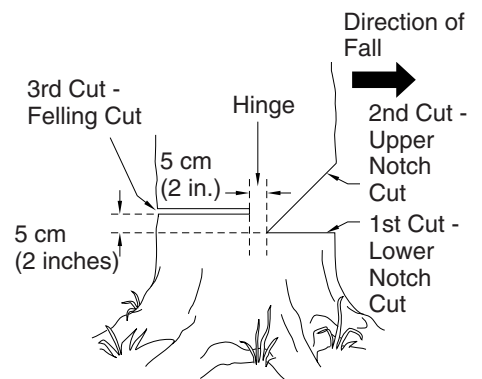

Figure 12 - Felling A Tree
A properly placed felling notch will determine direction tree will fall. Place felling notch on side of tree in direction you want tree to fall (see Figure 12). Follow directions below to create a felling notch.
1. Make lower notch cut as close to ground as possible. Hold saw so guide bar is horizontal. Cut 1/3 the diameter of tree trunk (see Figure 12). *Note:* Always make this horizontal lower notch cut first. If you make this cut second, tree can pinch chain or guide bar.
2. Start upper notch cut the same distance above first cut as first cut is deep. *Example:* If lower notch cut is 20 centimeters deep (eight inches), start upper notch cut 20 centimeters (eight inches) above it. Cut downward at 45° angle. The upper notch cut should meet end of lower notch cut (see Figure 12).
1. Make felling cut five centimeters (two inches) higher than lower notch cut and on opposite side of tree (see Figure 12). Keep felling cut parallel to lower notch cut.
- ##### ⚠ WARNING: Do not cut all the way through tree. Leave about five centimeters (two inches) of tree diameter uncut directly behind felling notch (see Figure 12). This uncut portion acts as a hinge. The hinge helps keep tree from twisting and falling in wrong direction.